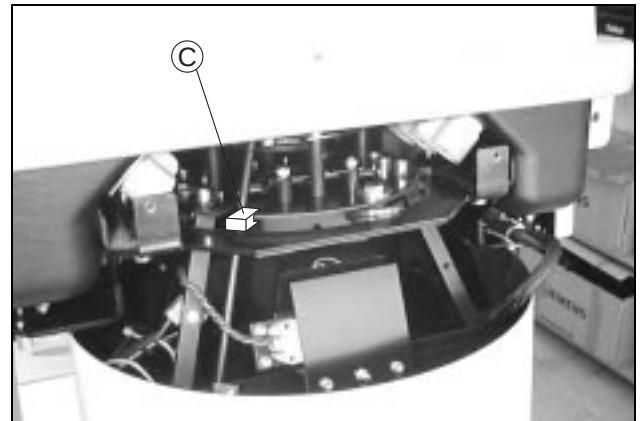

*Fig. 5 Mounting a safety stop*
- Mount one of the safety stops (C) as shown in *Fig. 5*. (The safety stop should be mounted close to the slit, with the locking screws facing down.)
- Secure the safety stop by means of the two locking screws (D).